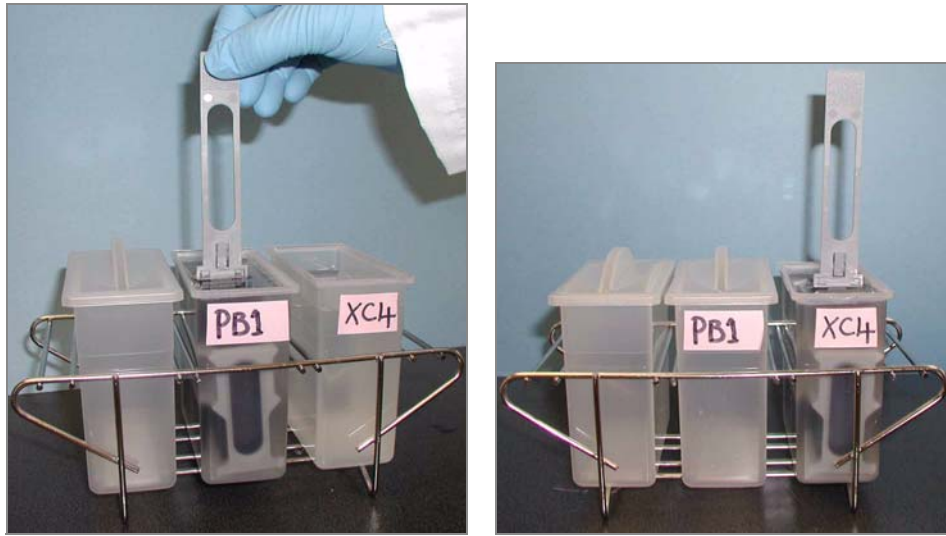

Figure 167 Moving BeadChips from PB1 to XC4
12. Remove the staining rack from the dish containing PB1 and place it directly into the wash dish containing XC4 (Figure 167). The barcode labels on the BeadChips must face **away** from you, while the locking arms on the handle face towards you, for proper handling and coating.